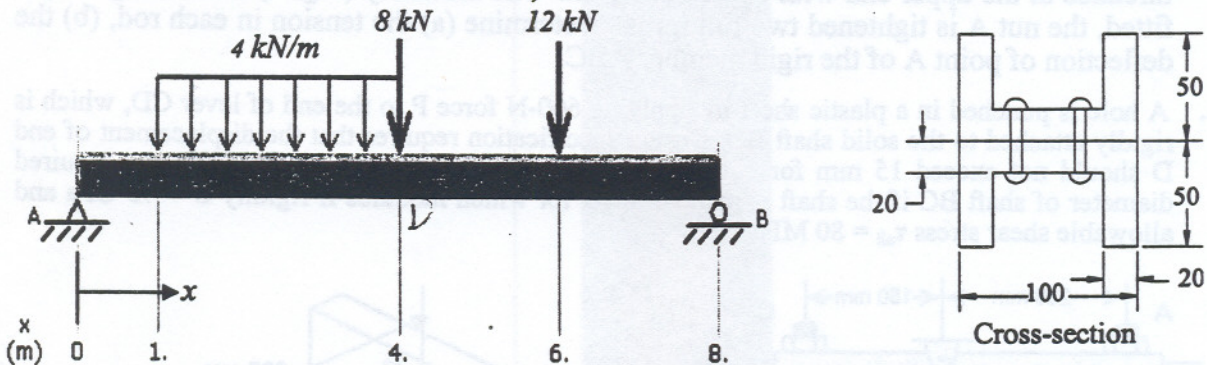

Fig.4
4. For the beam and the loading shown in Fig. 4: